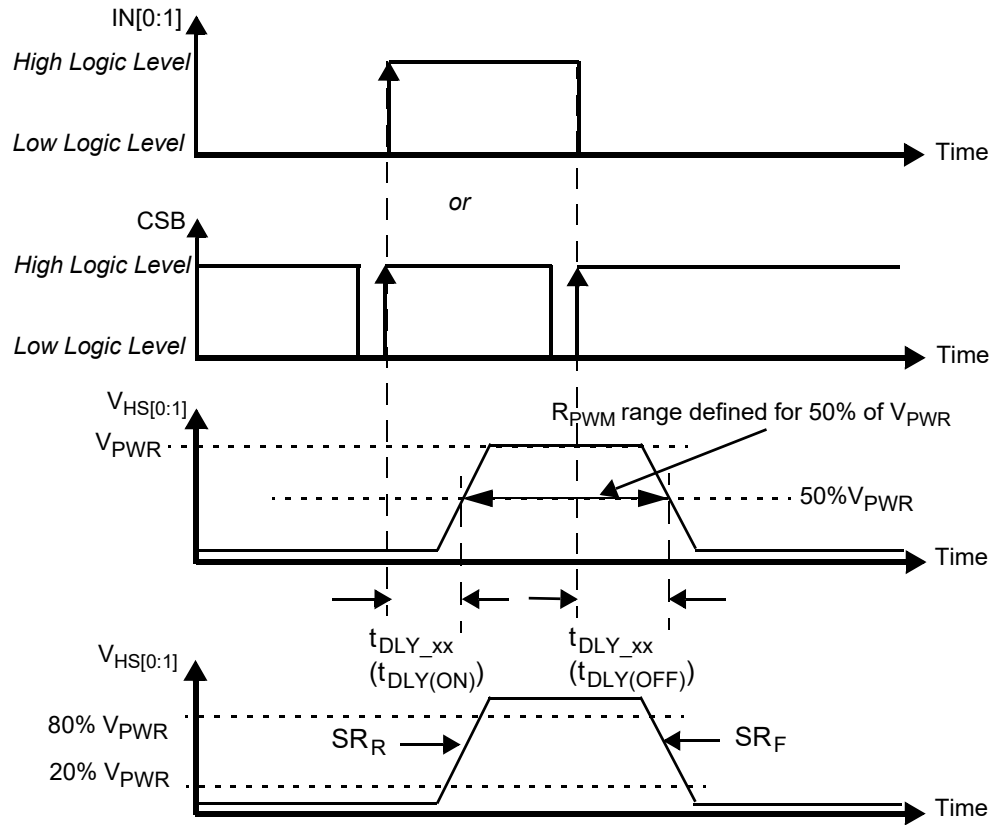
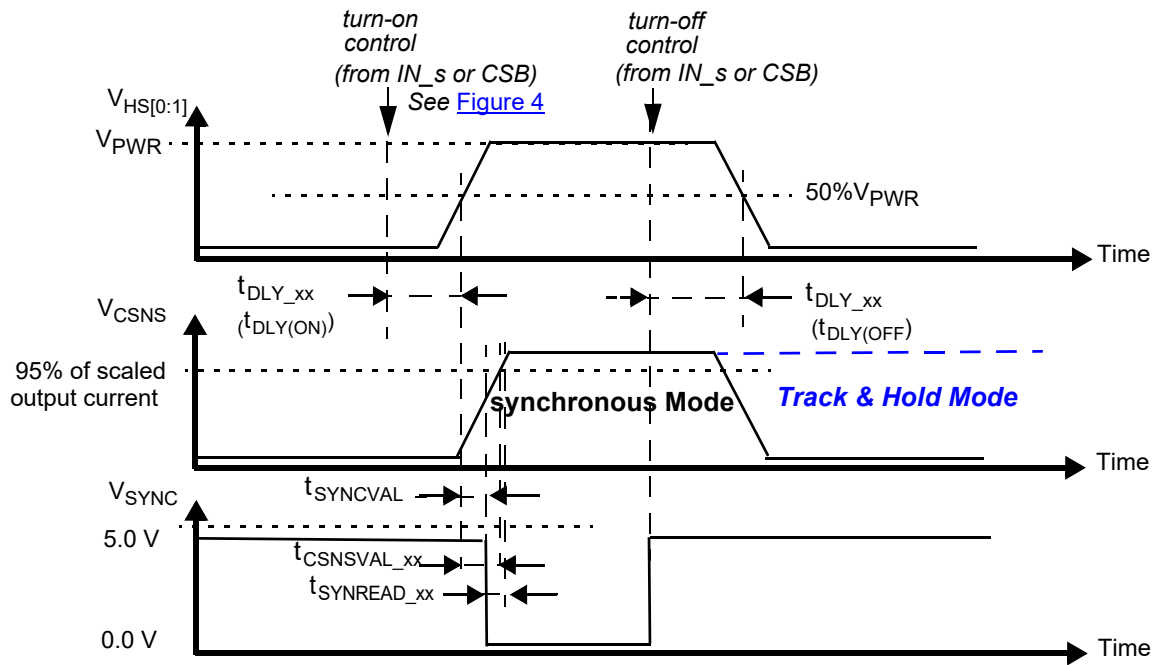

Figure 4. Output voltage slew rate and delay
Figure 9. Synchronous and Track & Hold current sensing modes: associated delay and settling times
31. Rising and Falling edge slew rates specified for a 20 to 80% voltage variation on a $10\ \Omega$ resistive load (see Figure 4).
33. Time required to switch off the channel after detection of overtemperature (OT), overcurrent (OC), SC or UV error (time measured between start of the negative edge on the FSB pin and the falling edge on the output voltage until $V(\text{HS}[0:1]) = 50\%$ of V_{PWR}).
34. Settling time ($= t_{\text{CSNSVAL_xx}}$), SYNC output signal delay ($= t_{\text{SYNCVAL_xx}}$) and Read-out delay ($= t_{\text{SYNREAD_xx}}$) are defined for a stepped load current ($100\text{ mA} < I(\text{LOAD}) < \text{IOCLX A FOR CSNS_RATIO_S} = 1$, AND $300\text{ mA} < I(\text{LOAD}) < \text{IOCLX A}_0$ FOR $\text{CSNS_RATIO_S} = 0$). (see Figure 9 and Output current monitoring \(CSNS\))
- Settling time ($= t_{\text{CSNSVAL_xx}}$), SYNC output signal delay ($= t_{\text{SYNCVAL_xx}}$) and Read-out delay ($= t_{\text{SYNREAD_xx}}$) are defined for a stepped load current ($100\text{ mA} < I(\text{LOAD}) < I_{\text{OCLX A FOR CSNS_RATIO_S}} = 1$, AND $300\text{ mA} < I(\text{LOAD}) < I_{\text{OCLX A_0 FOR CSNS_RATIO_S}} = 0$). (see Figure 9 and Output current monitoring \(CSNS\))
The CS pin allows independent current monitoring of channel 0 or channel 1 up to the steady-state overcurrent threshold. It can also be used to sense the device temperature. The different functions are selected by setting bits CSNS1_en and CSNS0_en to the appropriate value (Table 23). When the CSNS pin is sensed during switch-off in the (optional) track & hold mode (see Figure 9), it outputs the scaled value of the load current as it was just before turn-Off. When several devices share the same pull-down resistor, the CSNS pins of devices, the current of which is not monitored, must be tri-stated. This is accomplished by setting CSNS0_en = 0 and CSNS1_en = 0 in their GCR register (Table 12). Settling time ($t_{CSNSVAL_XX}$) is defined as the time between the instant at the middle of the output voltage’s rising edge ($HS[0:1] = 50\%$ of V_{PWR}), and the instant at which the voltage on the CSNS pin has settled to $\pm 5.0\%$ of its final value. Anytime an overcurrent window is active, the CSNS pin is disabled (see Overcurrent detection on resistive and inductive loads). The current and temperature sensing functions are unavailable in Fail-safe mode and in Normal mode when operating without the V_{DD} supply voltage. In order to generate a voltage output, this pin requires a pull-down resistor ($R(CSNS)=1.0\text{ k}\Omega$ typ. and $470 < R(CSNS) < 10\text{ k}$). When the current sense resistor connected to the CSNS pin is disconnected, the CSNS voltage is clamped to $V_{CL(CSNS)}$. The CSNS pin can source currents up to about 5.6 mA.
To synchronize current sensing with an external process, the SYNC signal can be connected to a digital input of an external MCU. An open-drain pull-down on SYNC indicates that the current sense signal is accurate and ready to be read. The current sense signal on the CSNS pin has the specified accuracy $t_{SYNCREAD_XX}$ seconds after the falling edge on the SYNC pin (Figure 9) and remains valid until a rising edge is generated. The rising edge that is generated by the SYNC pin at the turn-OFF instant (internal or external) may also be used to implement synchronization with the external MCU. Parameter $t_{SYNCVAL_xx}$ is defined as the time between the instant at the middle of the output voltage rising edge ($HS[0:1] = 50\%$ of V_{PWR}), and the instant at which the voltage on the SYNC-pin drops below 0.4 V (V_{SOL}). The SYNC pins of different devices can be connected together to save micro-controller input channels. However, in this configuration, the CSNS of only one device should be active at a time. Otherwise, the MCU is not be able to determine the source of the SYNC signal. The SYNC pin requires an external pull-up resistor to V_{DD} .